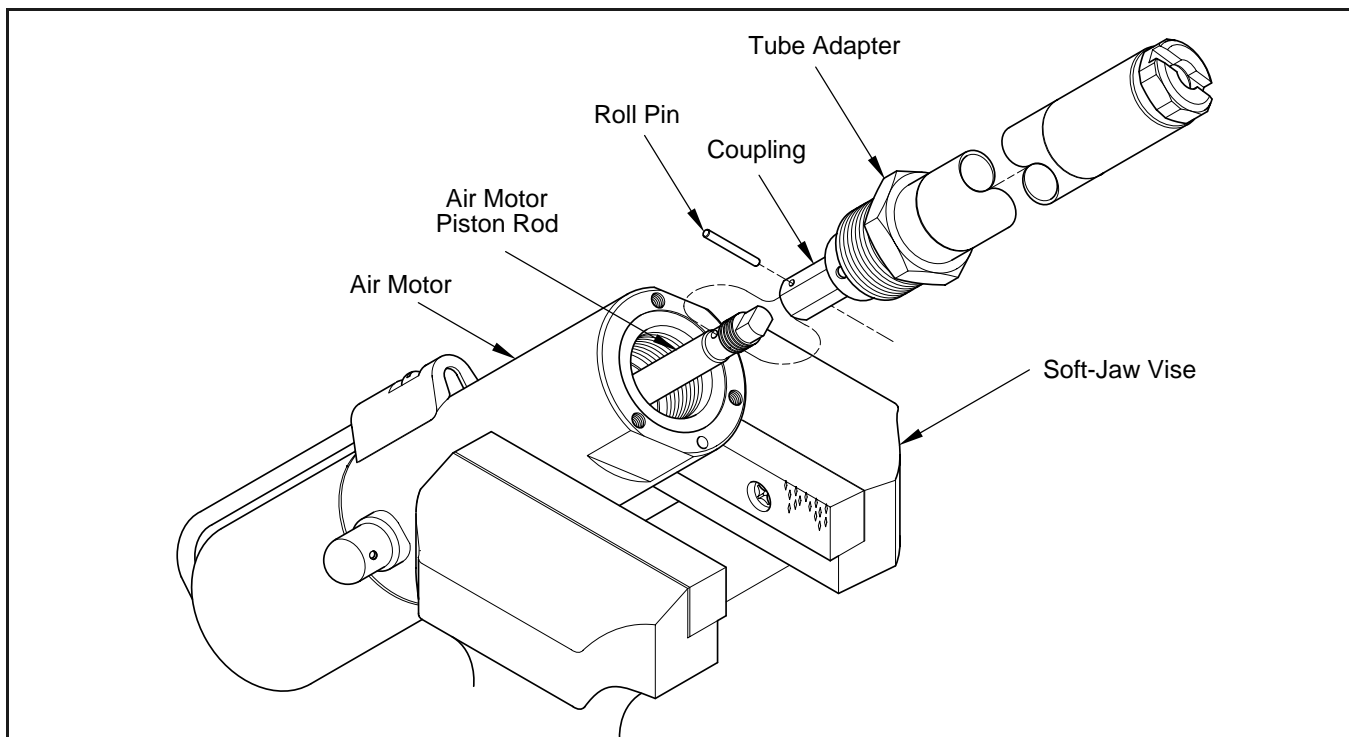

Figure 4 Separation of Pump Tube Assembly from Air Motor
1. Clamp the pump assembly in a soft-jaw vise. See **Figure 4**.
2. Unscrew Tube Adapter (5) from Air Motor assembly (3).